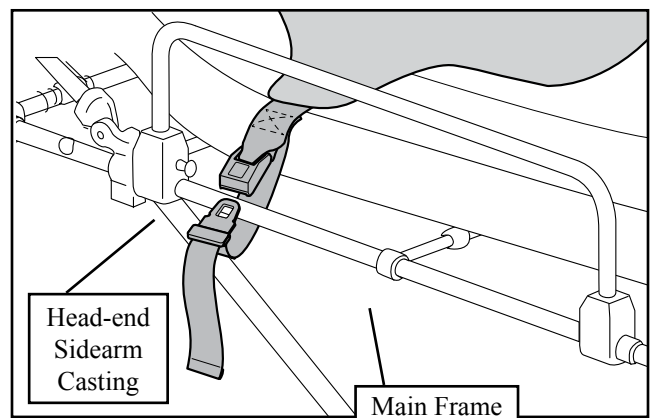

Figure 3 - Attach a Strap to the Cot Main Frame
4. Wrap the strap up around the cot main frame and fasten the buckle (Figure 3). Leave a little slack in the strap for final adjustment.